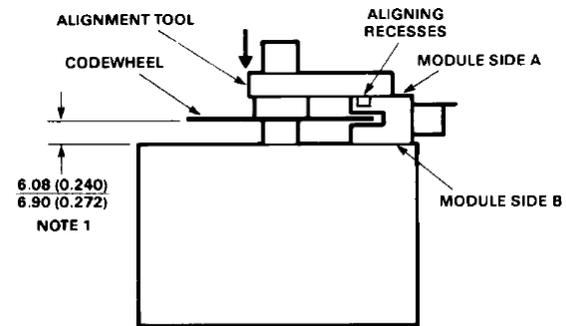

Figure 4. Alignment Tool is Placed over Shaft and onto Codewheel Hub. Alignment Tool Pins Mate with Aligning Recesses on Module.
4. Slide alignment tool over codewheel hub and onto module as shown in Figure 4. The pins of the alignment tool should fit snugly inside the alignment recesses of the module.